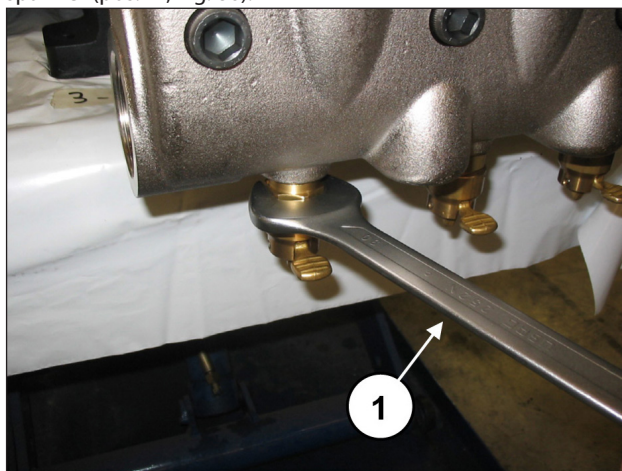

Fig. 86
Unscrew the valve opening device by means of a 30 mm spanner (pos. ①, Fig. 86).